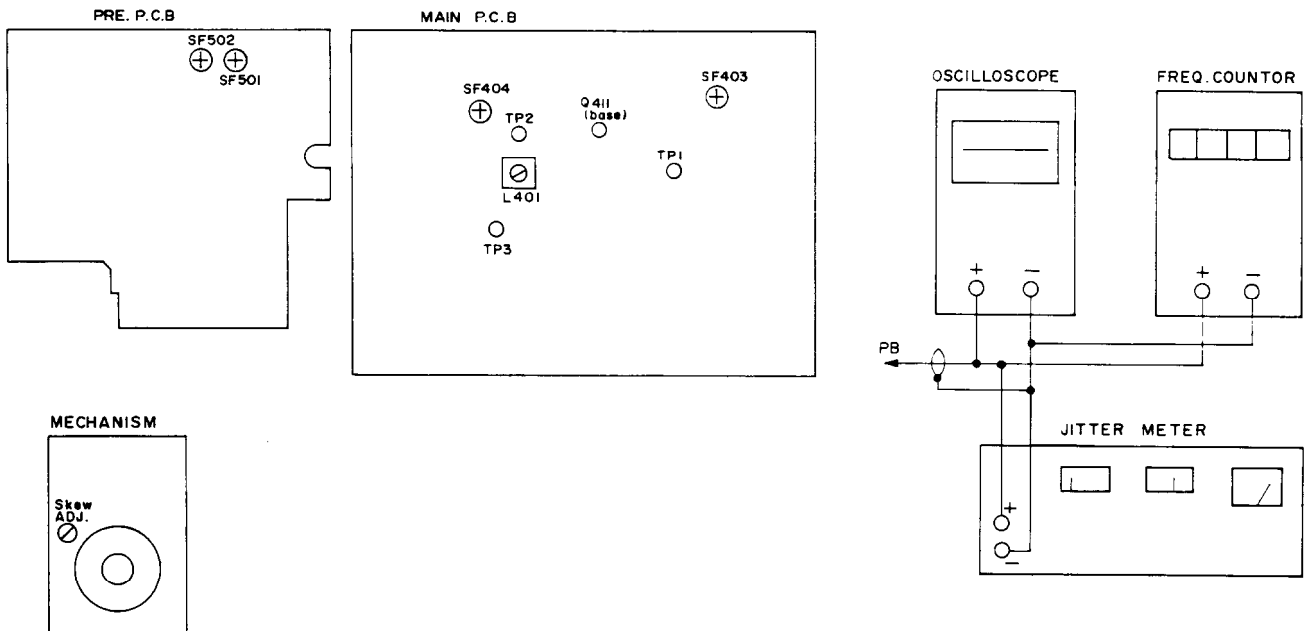

Fig. 3
- 1) Connect the frequency counter to test point TP-3 terminal. (See fig. 3)
#### Method 1 (See fig. 3)
#### Method 2 (See fig. 3)
(See fig. 3)